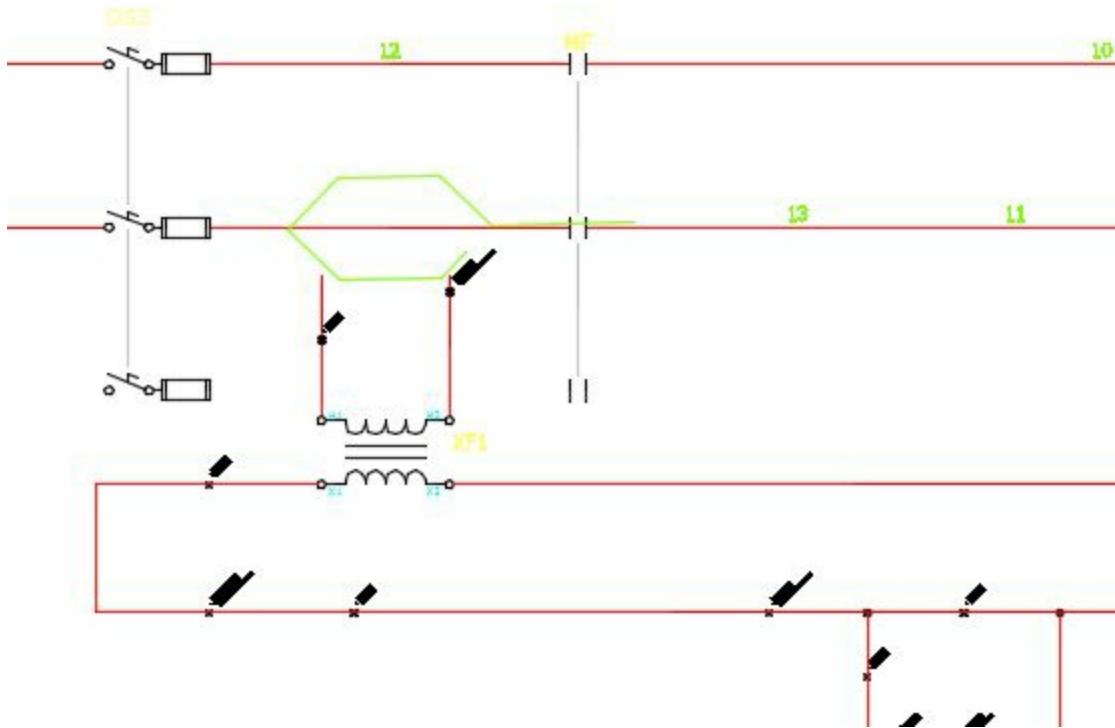

Figure-48. Circuit inserted
- Click to specify the insertion point, the circuit will be placed; refer to Figure-48.